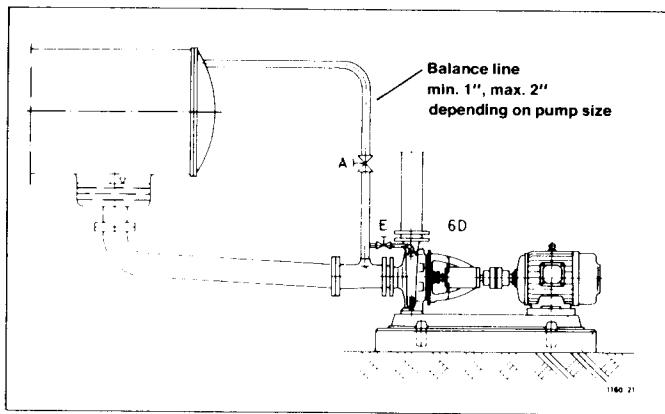

Fig. 4. Vacuum Balance Line
2. VACUUM BALANCE LINE (Fig. 4) is recommended for condensate application or where liquid to suction of pump is under vacuum, particularly if positive suction head is low. It serves the purpose to evacuate entrapped air and gas from pump. Connect line as close as possible to suction flange. At start up open valve E and close it after venting is completed. Valve A stays always open except at shutdown.